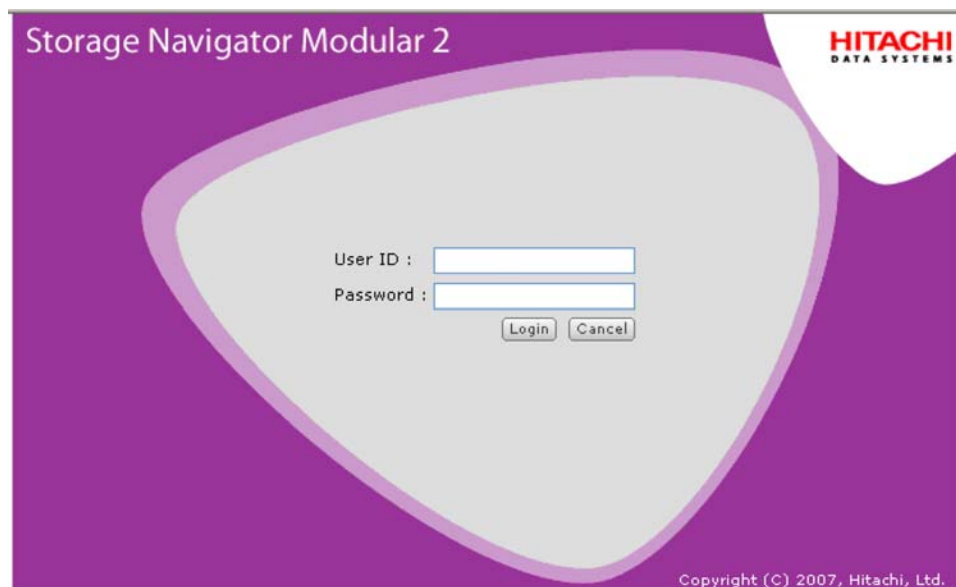

Figure 3-11: Storage Navigator Modular Login Window
2. When the login window appears (see Figure 3-11), enter **system** as the default User ID and **manager** as the default password ID box.